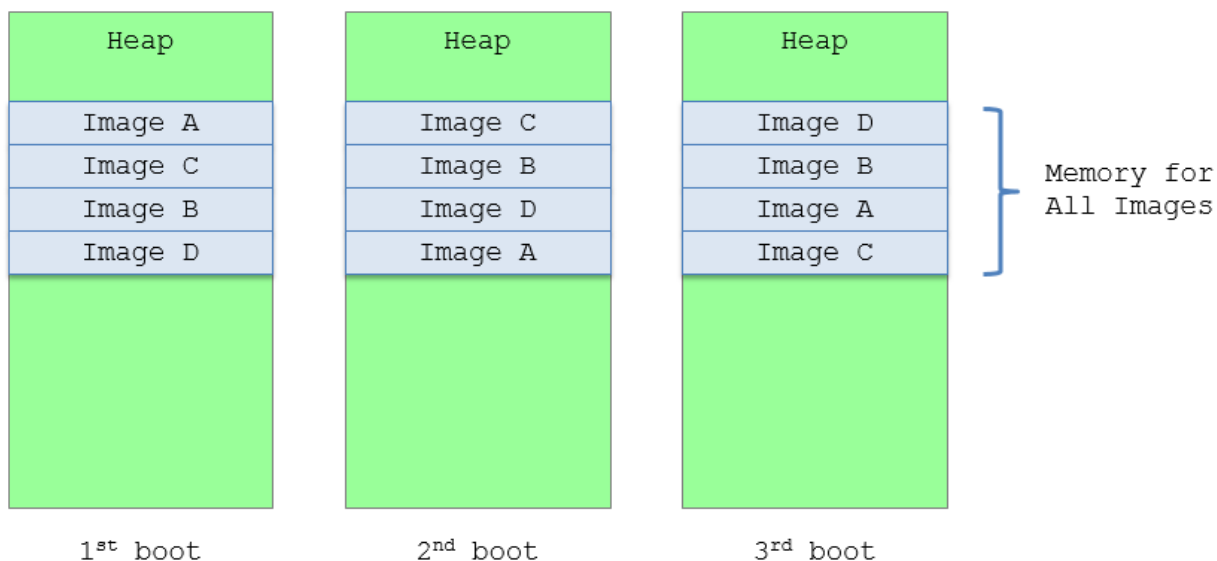

Figure 3-5 Image Shuffle
For PE/COFF images we use “image shuffle” to randomize the image load order. Whenever the DxeCore discovers a new firmware volume (FV), the DxeCore unconditionally load all the images in this FV with a random order. See figure 3-5 Image shuffle.